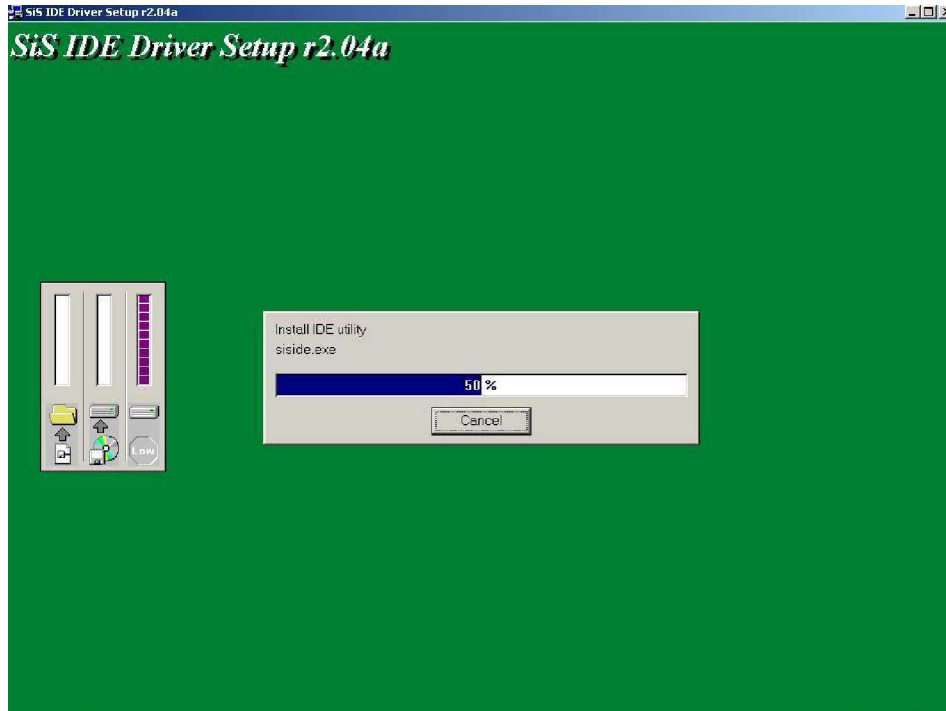

Figure 6-22: Chipset Driver Installation Complete
Step 13: Select an OS and click on the “NEXT” button to initiate driver installation. The installation screen shown in **Figure 6-22** appears.